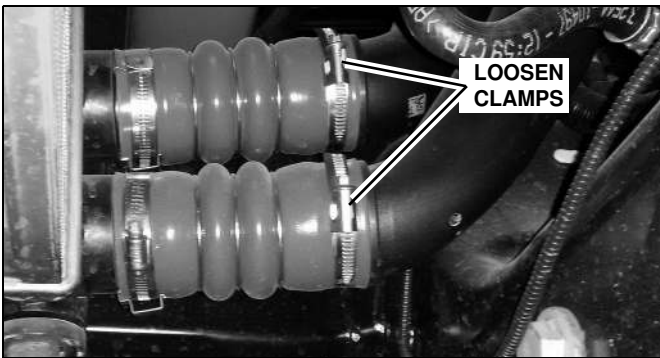

Figure 20
9. Loosen the 2 hose clamps from the passenger side of the intercooler and disconnect. (See Figure 20)